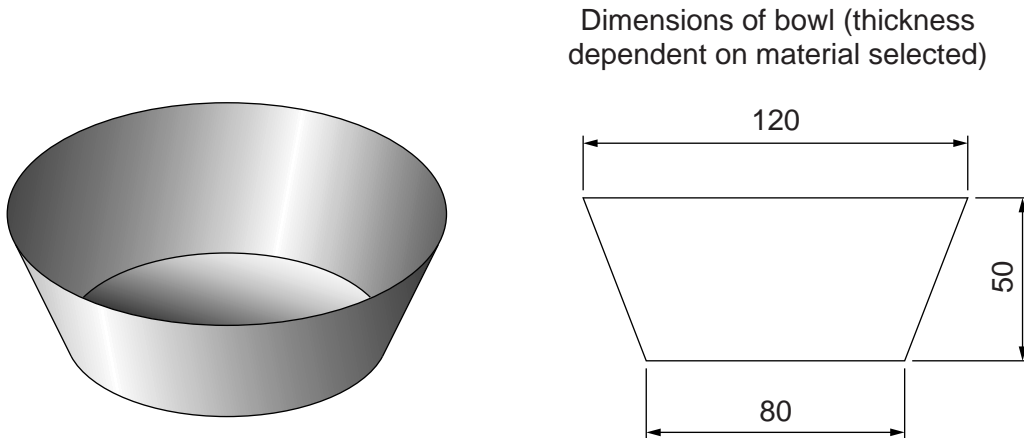

Fig. 1
- 1 Fig. 1 shows a prototype design for a bowl to hold after-dinner sweets.